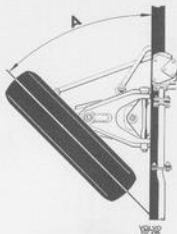
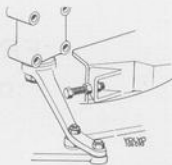

Fig. 6-11. Adjusting max. wheel lock
Fig. 6-12. Adjusting screw, max. wheel lock
Turning of the wheels is limited by stop screws at the pitman arm (Fig. 6-12) and at the relay arm. Adjusting is done as follows:
1. Turn the left wheel for a left-hand turn as far as it goes. Check the wheel lock according to Fig. 6-11. If the lock is not as in this figure, then adjust to this angle with the adjusting screw (Fig. 6-12).